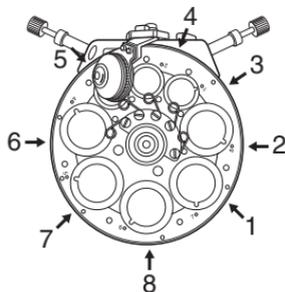

Fig. 14
(Figs. 14 & 15)
1. Fig. 14 shows the relationship between the number sticker attaching grooves (1 to 8) and the turret.